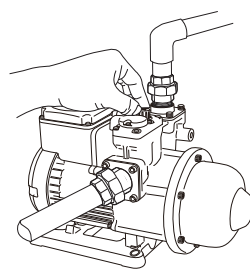

Fig. 9
1. Before starting, the pump must be primed. For installation with no inlet pressure, please follow the procedure as shown in Fig 9.